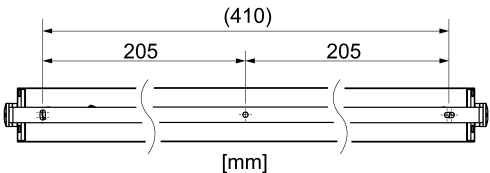

Figure 3: Drilling dimensions
- To install the luminaire, first loosen the side clamping discs (3) using a TORX 30 pin wrench and remove the retainer clamp (5) from the luminaire housing (1).
- Fit boreholes (Figure 3).
- Fasten the retainer clamps (5) to the installation substrate using two suitable screws.
- Insert the luminaire housing (1) into the retainer clamp (5).
- Push on the clamping discs (3) on both sides of the retainer clamp and hand-tighten the screw using a TORX 30 pin wrench.